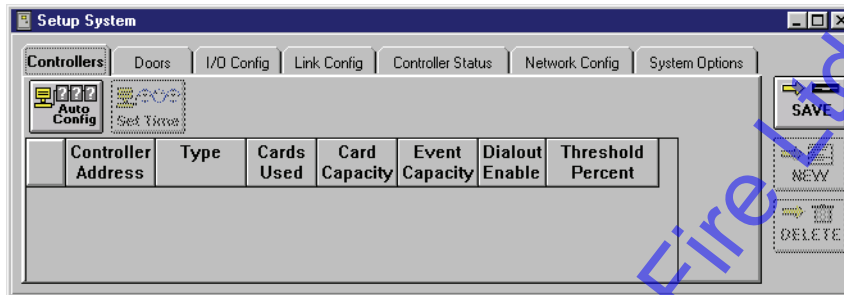

Figure 9-14: Setup System Window
1. Click the Setup ⇒ System pull-down menu or click the  button on the tool bar. The Setup System window appears (see Figure 9-14).